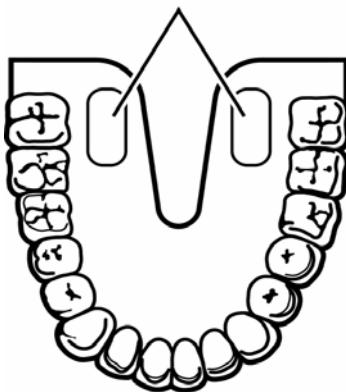

Figure 9: Location of Sublingual Pockets
- 4) When dashes “---“ appear in the TEMP display window, the temperature sensor is ready to take a measurement. To take a normal predictive temperature, simply insert the probe tip gently into the patient’s slightly opened mouth. Carefully slide the probe under the tongue on either side of the mouth to reach the sublingual pocket. Refer to Figure 9.